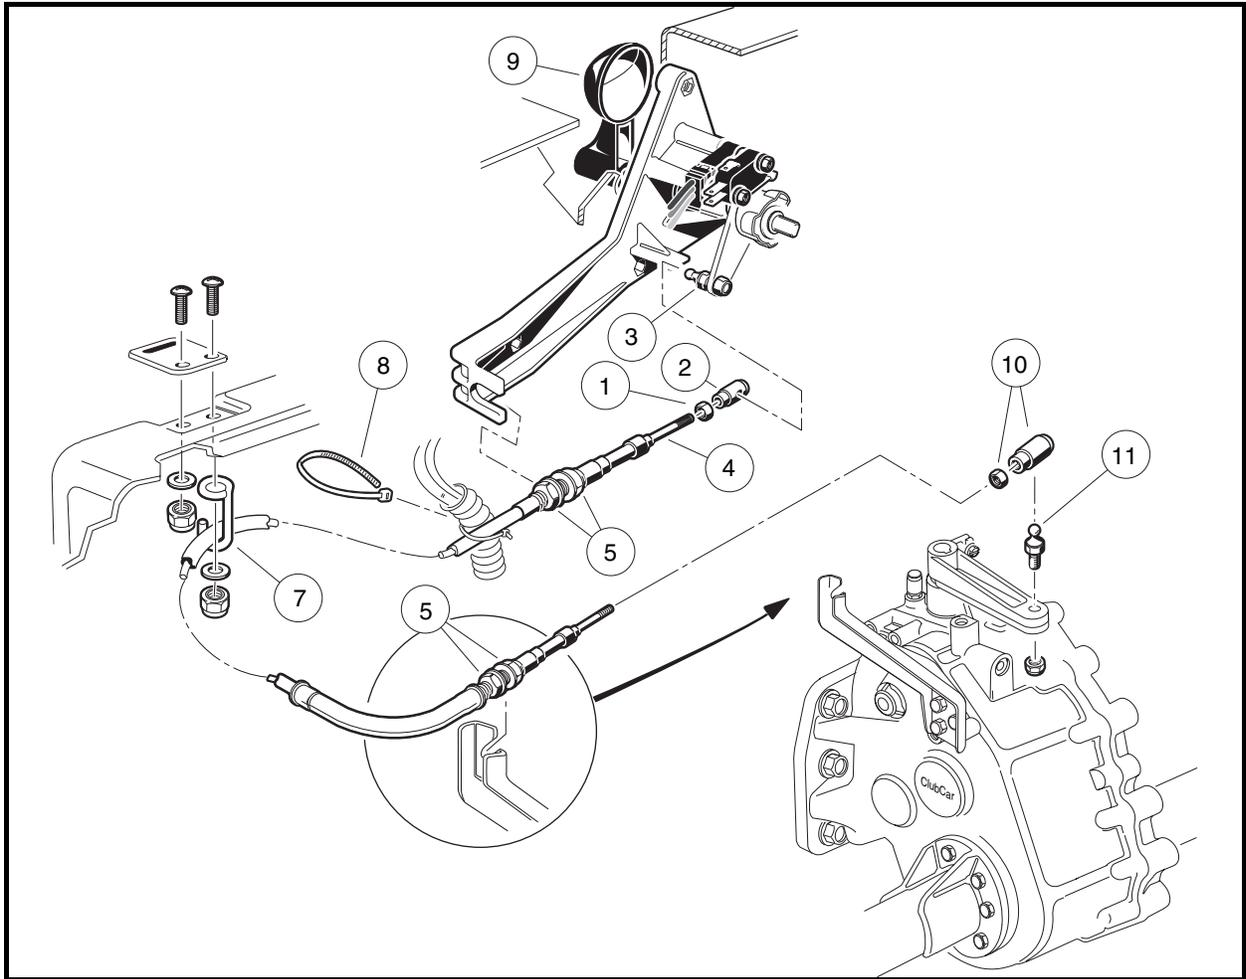
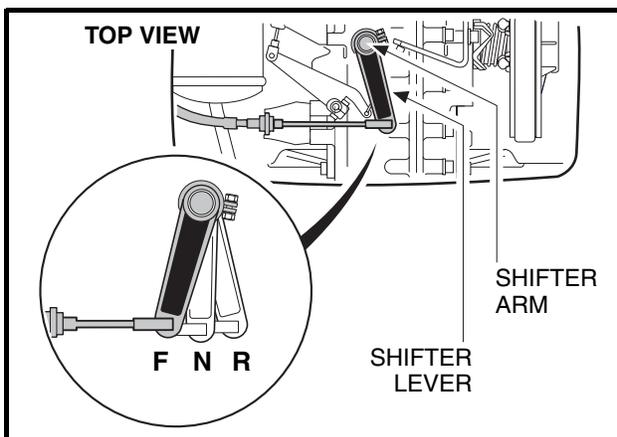

Figure 16-54 Forward/Reverse Shifter Cable
Figure 16-55 Forward/Reverse Positions
3. Remove the ball joint socket (2) from the Forward/Reverse shifter assembly ball stud (3) (**Figure 16-54, Page 16-23**).
4. Remove the ball joint socket (10) from the shifter arm ball stud (11) on the transaxle.
5. Loosen the retaining nuts (5) on both ends of the cable and remove the wire tie.
2. Secure the cable with a retaining nut (5) on each side of the shifter cable support bracket at the transaxle (**Figure 16-54, Page 16-23**). Tighten nuts to 22 ft-lb (29.8 N·m).
3. Secure the cable with a retaining nut (5) on each side of the shifter cable support bracket at the Forward/Reverse assembly. Tighten nuts to 43 in-lb (4.9 N·m).
4. Install the ball joint socket (10) on the shifter lever ball stud (11) on the transaxle.
5. Install the ball joint socket (2) on the Forward/Reverse shifter assembly ball stud (3) (**Figure 16-54, Page 16-23**).
6. Attach Forward/Reverse cable at cable retainer (7).
7. Install wire tie (8) to secure wire harness to cable at the support bracket near the Forward/Reverse shifter assembly. **See following WARNING.**
With the shifter lever of the unitized transaxle in the NEUTRAL position (**Figure 16-54, Page 16-23**), the Forward/Reverse handle (9) should be straight up. For minor adjustments, the nut (1) may be loosened and the ball joint socket (2) rotated to get the proper adjustment (**Figure 16-54, Page 16-23**). **See following CAUTION.**
For major adjustments, the cable retaining nuts (5) must be loosened and adjusted. When the cable is properly adjusted, with the Forward/Reverse handle (9) (Figure 16-54, Page 16-23) in the NEUTRAL position, the shift lever of the transaxle will also be in the NEUTRAL position (Figure 16-55, Page 16-23). Retighten nuts at the transaxle to 22 ft-lb (29.8 N·m); retighten nuts at the Forward/Reverse assembly to 43 in-lb (4.9 N·m).